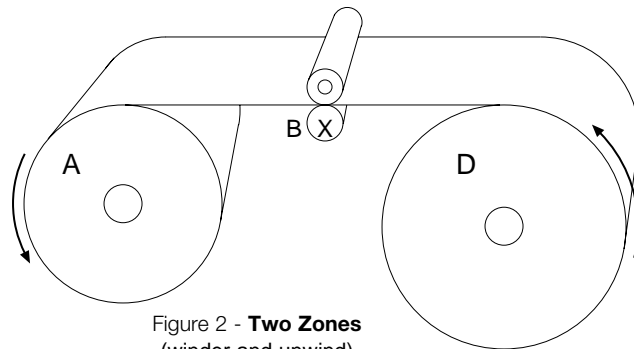

Figure 2 - **Two Zones**
II. More commonly, a machine will have driven nip rolls in the center, or processing section (see Fig. 2). A simple slitter/rewinder is an example. In this case, there are two separate tension zones to deal with and the tension levels may be different in each zone. Different tension levels are possible because the web is captured at the driven nip rolls, thus creating separate and distinct unwind and rewind zones. The driven nip rolls (B) will typically be powered by a motor drive that establishes machine line speed. Processing tension will be controlled by a brake system at the unwind (D), and a clutch or motor drive will control the winder tension (A). Again, the method of control will be dictated by the accuracy of tension control required in each zone. If process tension levels can vary by 10% or greater, a simple open loop brake control system may suffice. More accurate control would require a closed loop system, such as dancer or load cell feedback. Likewise, in the winder zone, open loop control may be sufficiently accurate, or closed loop or taper tension control may be required.